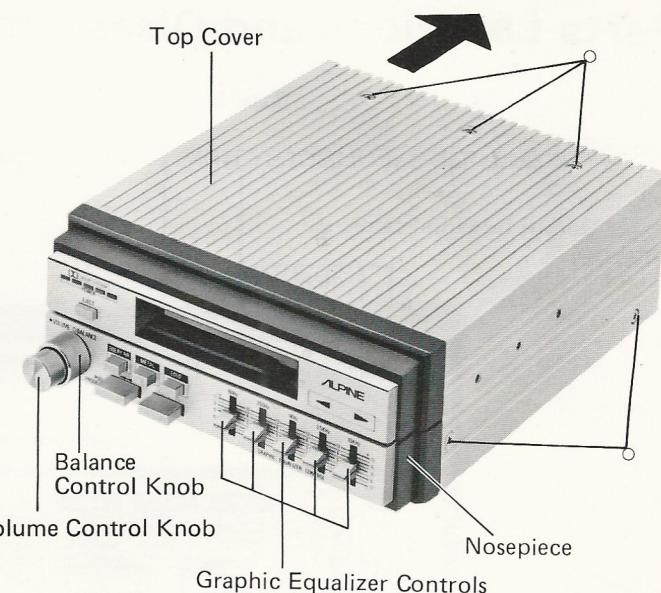

Figure 3
- (1) Remove seven screws marked "○" as shown in Figures 3 and 4.
- (2) Pull the top cover upwards in the arrow direction as shown in Figure 3.
- (1) Remove seven knobs (volume, balance, equalizer controls) as shown in Figure 3.